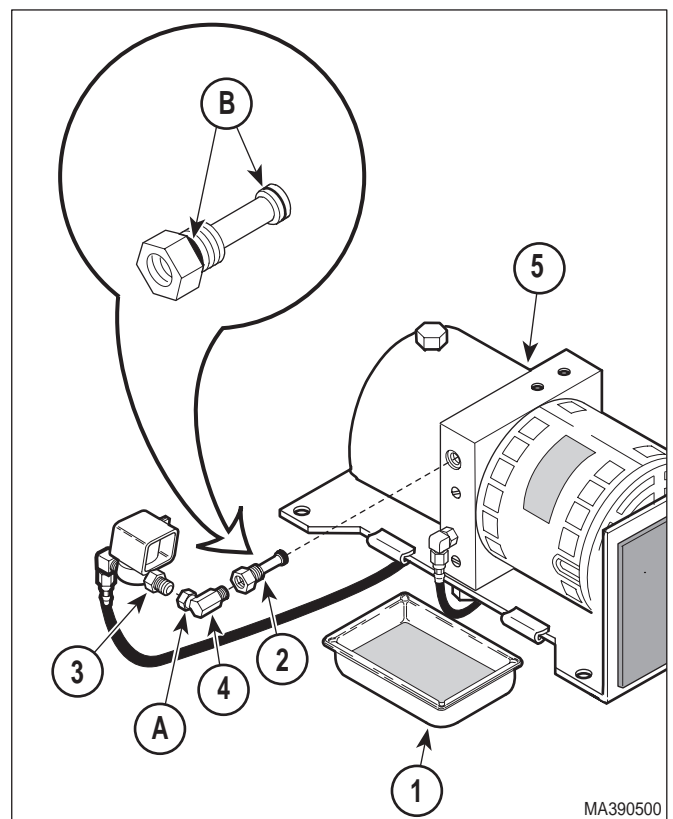

Figure 4-5. Down Functions Shuttle Valve Removal / Installation
- (3) Place rags or a drain pan (1, Figure 4-5) under the DOWN function shuttle valve (2)
- (4) Using a wrench to hold male connector (3) stationary, loosen the jam nut (A) of the elbow (4). Disconnect the elbow (4) from male connector (3).
- (5) Remove elbow (4) from the DOWN function shuttle valve (2).
- (6) Remove the DOWN function shuttle valve (2) from motor pump (5).